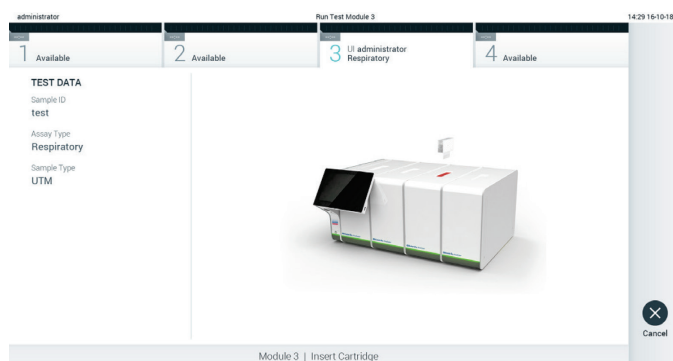

Figure 27. Inserting QIAstat-Dx assay cartridge into QIAstat-Dx Analyzer 1.0.
7. Make sure that both sample lids of the swab port and main port of the the QIAstat-Dx assay cartridge are firmly closed. When the cartridge entrance port on the top of the QIAstat-Dx Analyzer 1.0 automatically opens, insert the QIAstat-Dx assay cartridge with the bar code facing to the left and the reaction chambers facing down (Figure 27).